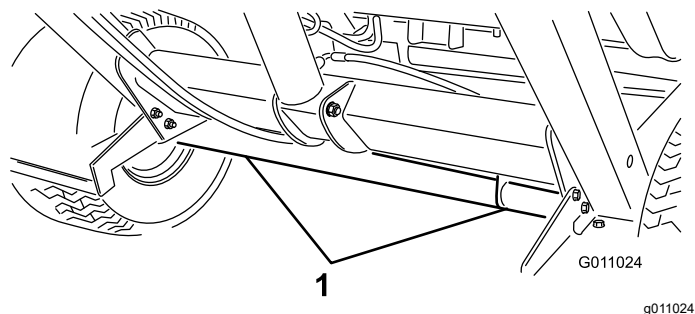
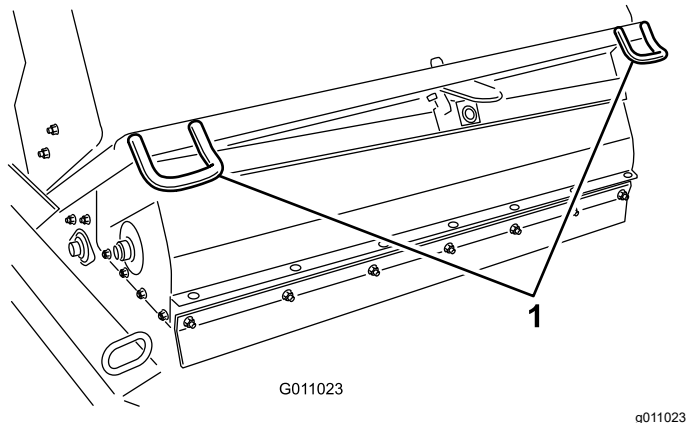

Figure 32
Figure 31
- When transporting the machine, use the tie-downs to secure the front of the machine (Figure 31) and the axle (Figure 32) to secure the rear of the machine to the trailer.